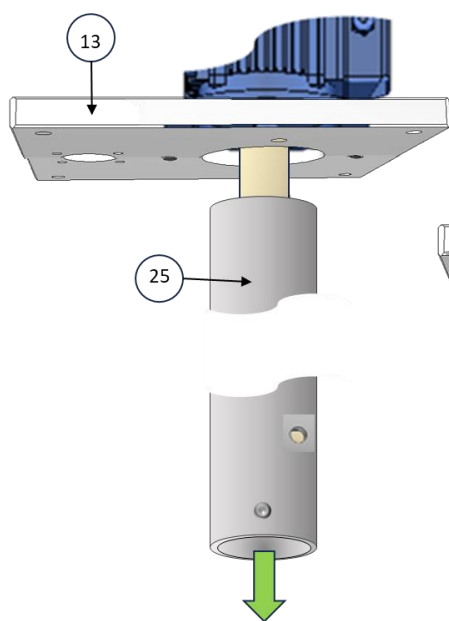
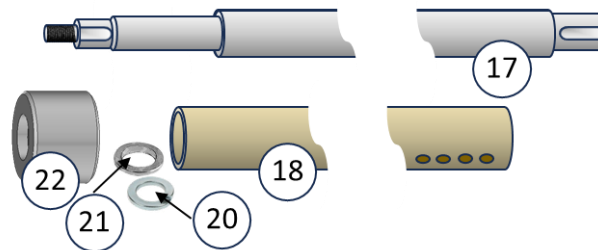

Figure 1
Figure 5
1. Separate the column (25) from the plate (13) (Figure 1)
Follow the sequences shown in point 4.7.3 from Figure 5 backwards to Figure 1